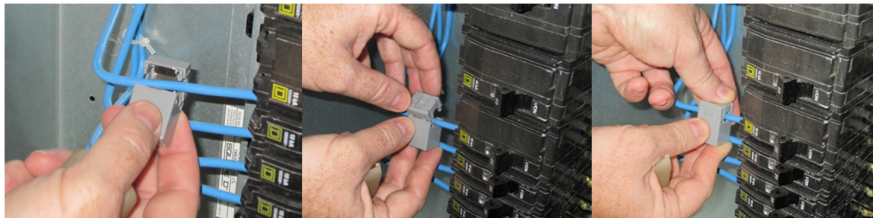

Figure 7. Installing a sensor.
7. Place the opening of the sensor on a clean section of the electrical cable with the arrow on the label pointing towards the load, so that the sensor ID and barcode are visible and easily readable. See Figure 7.